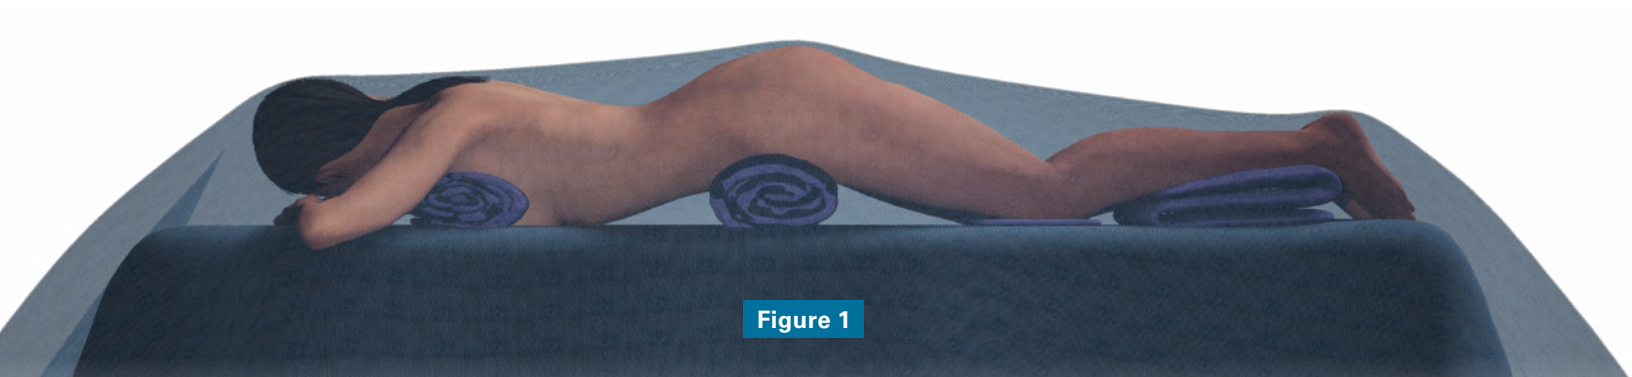

Figure 1
- If a flat table is used, place towel rolls transversely under the chest and waist, and pillows under the feet to relax hip and knee joints (**Figure 1**).